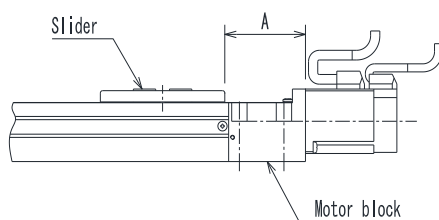

Fig. 6.6-4
- (5) Temporarily connect the actuator and controller, connect the teach pendant with the controller, then turn the power on. For how to connect, see Para. 2.4.5 of the instruction manual (basic) provided separately.
- (6) Set the servo gain values (position and speed) of Parameter 1 to zero (0). For the setting procedures, see Para. 13.3.3, 13.3.4 of the instruction manual (basic).
- (7) Specify "3" for the home return method of Parameter 2.
- (8) Execute the home return.
- (9) Move the slider to the position shown in Fig. 6.6-4 and tighten the coupling clamp screw.
The home position differs between the KBX-T5 and KBX-T7 actuators. (See Fig. 6.6-4.)